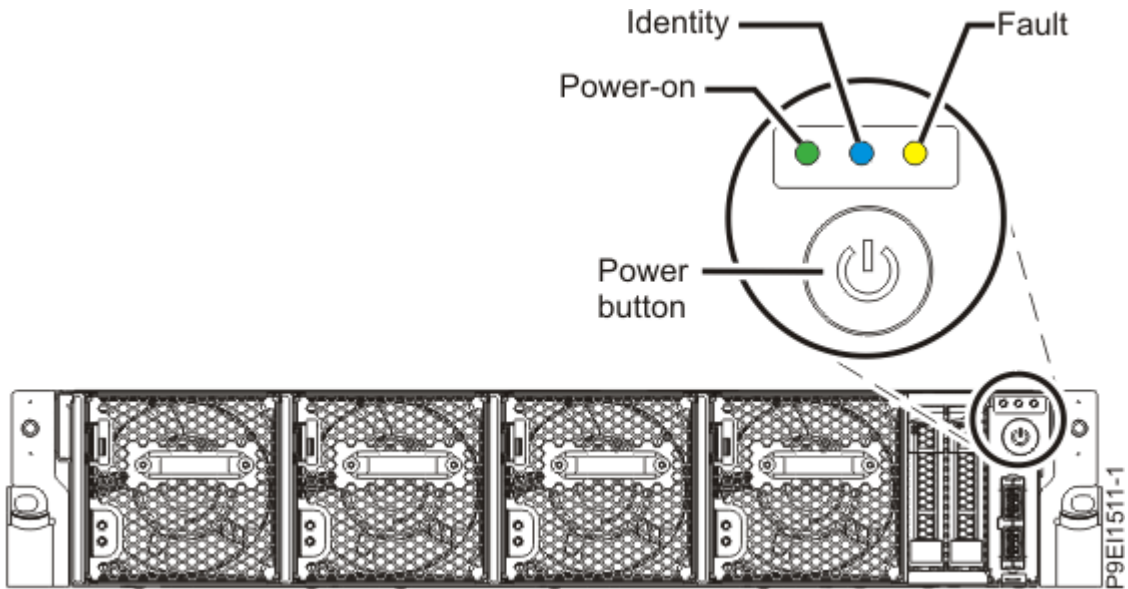

Figure 98. Power button
- The power-on LED as shown in Figure 98 on page 125, is flashing. A flashing light indicates standby power to the unit.
3. Press the power button that is shown in Figure 98 on page 125.